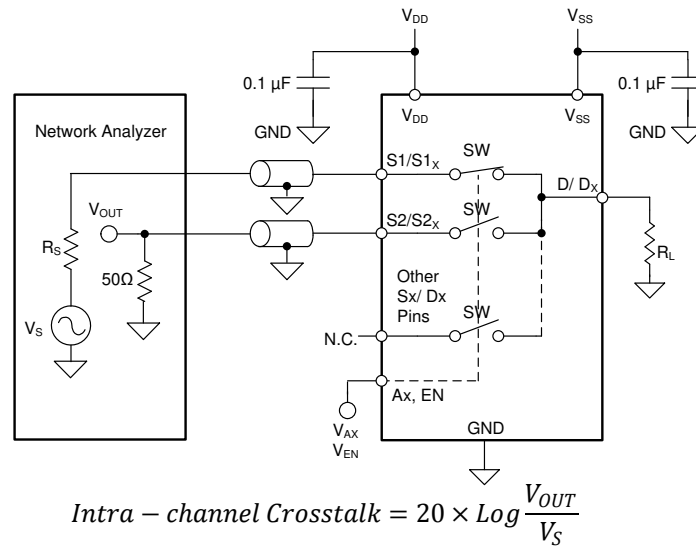

图 8-13. Intra-channel Crosstalk Measurement Setup
1. Intra-channel crosstalk ($X_{TALK(INTRA)}$): the voltage at the source pin (S_x) of an off-switch input, when a 1- V_{RMS} signal is applied at the source pin of an on-switch input in the same channel, as shown in 图 8-13.